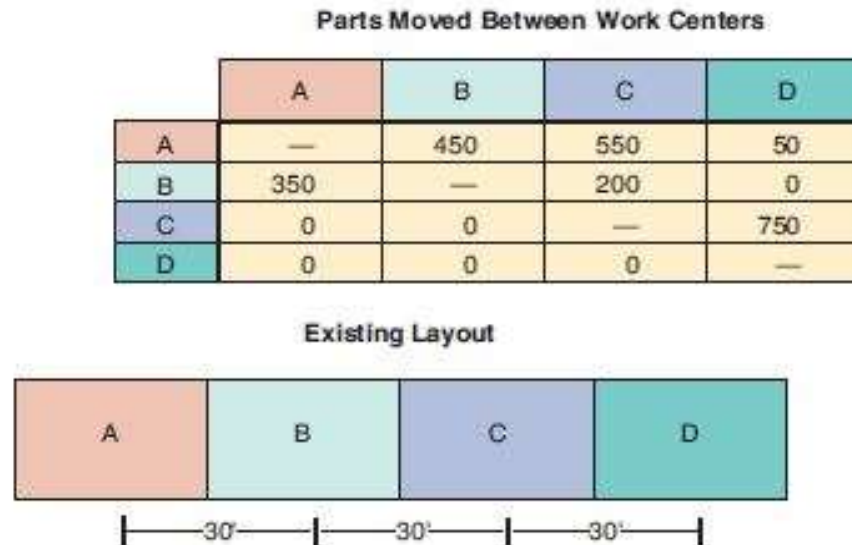

Figure 9.19
•• **9.5** Adam Munson Manufacturing, in Gainesville, Florida, wants to arrange its four work centers so as to minimize interdepartmental parts handling costs. The flows and existing facility layout are shown in Figure 9.19. For example, to move a part from Work Center A to Work Center C is a 60-foot movement distance. It is 90 feet from A to D.